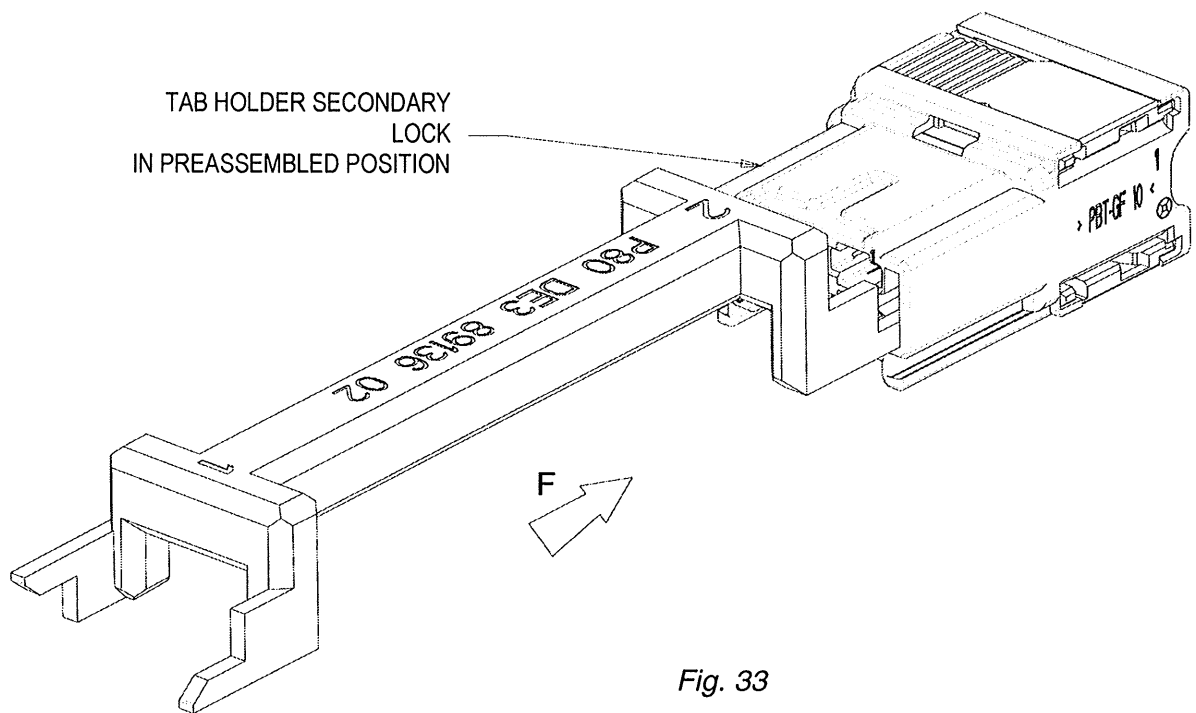

Fig. 33
4. APPLY A FORCE ALONG F (FIG. 33) TO RELEASE THE LATCHES THAT MAINTAIN THE THSL PREASSEMBLED POSITION